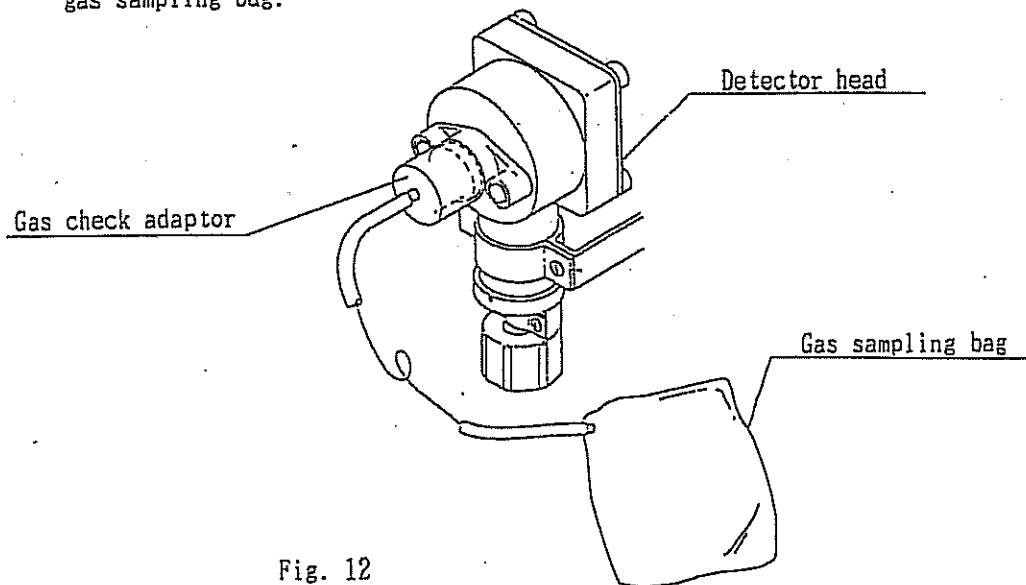

Fig. 12
- (4) Prepare the new sensor and confirm that one of five pins on the bottom of sensor is longer than other four pins. Insert slightly (shortly) this long pin to the socket of hole of detector head as fig. 12.